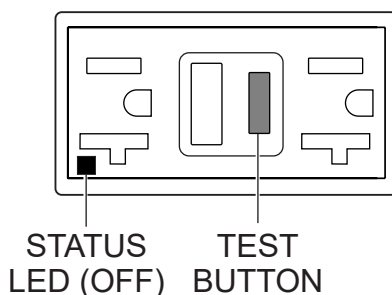

Figure 135. GFCI Receptacle (OFF)
4. Press the **TEST button** (Figure 135) on the GFCI receptacle and verify that the status LED turns **OFF**.